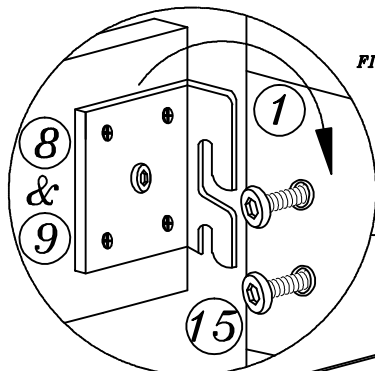

FIGURE 2
- Secure Wood Leg (3) to headboard panel (1).
- Secure left side rail (8) and right side rail (9) on headboard panel (1). Use Allen wrench (19) to loosed screw (15) pre-installed in headboard panel (1) 4 or 5 turns; then insert metal bracket of side rail (8 & 9) over screw (15). SEE FIGURE 2